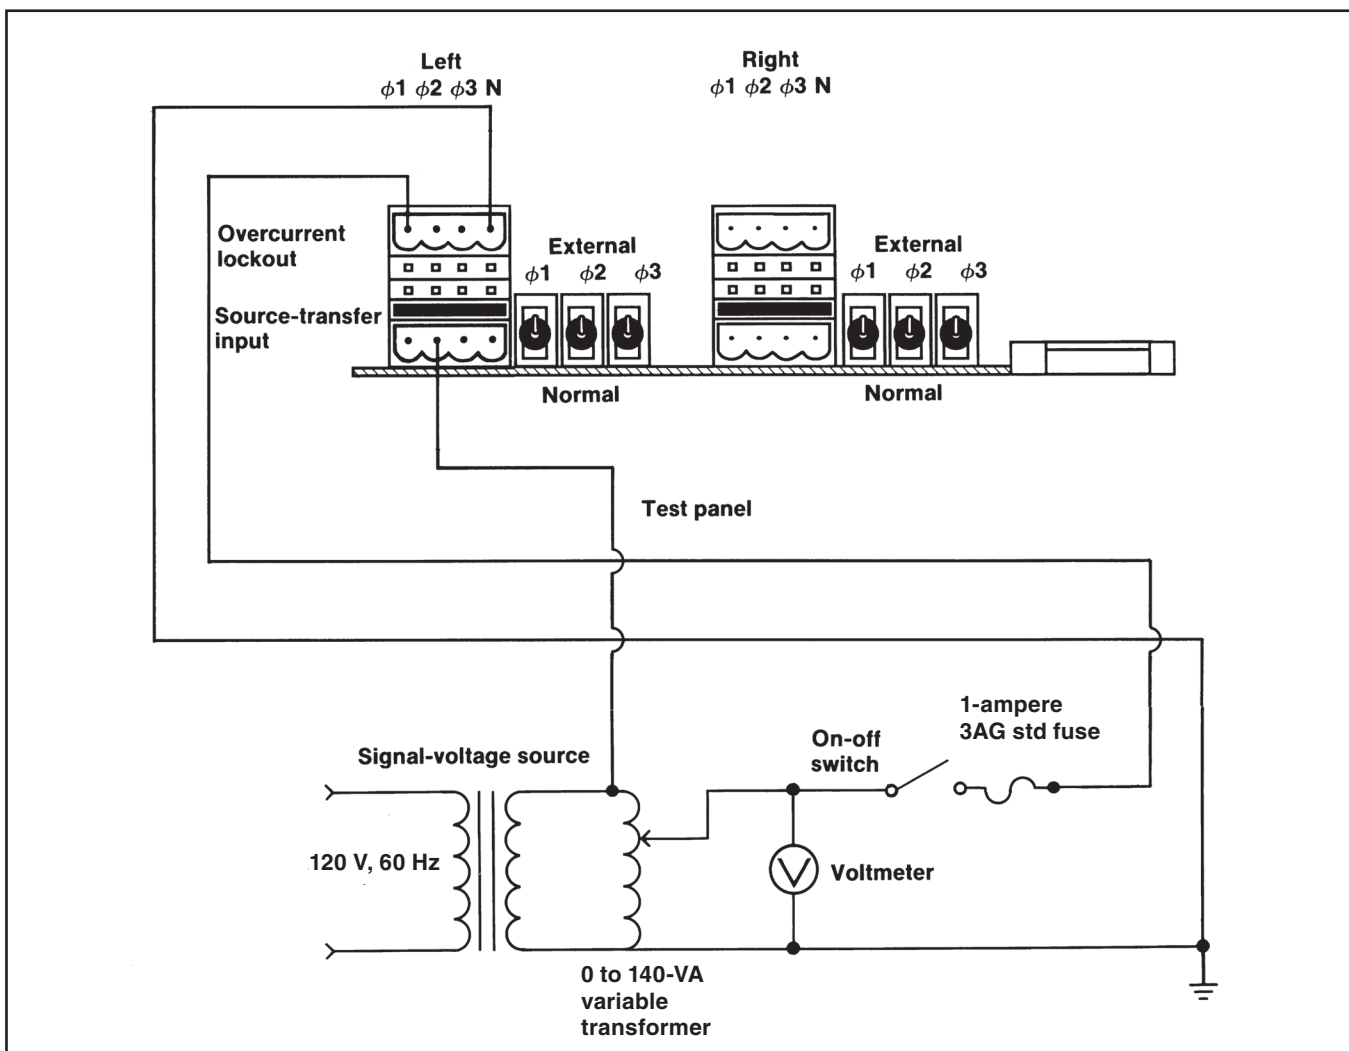

Figure 13. An overcurrent-lockout test-circuit connection diagram for weatherproof enclosure applications.
- STEP 26.** Make up the test-circuit connections to Phase 1 and neutral on the left overcurrent-lockout connector and to Phase 2 on the left source-transfer input connector, as shown in Figure 13 on page 30.